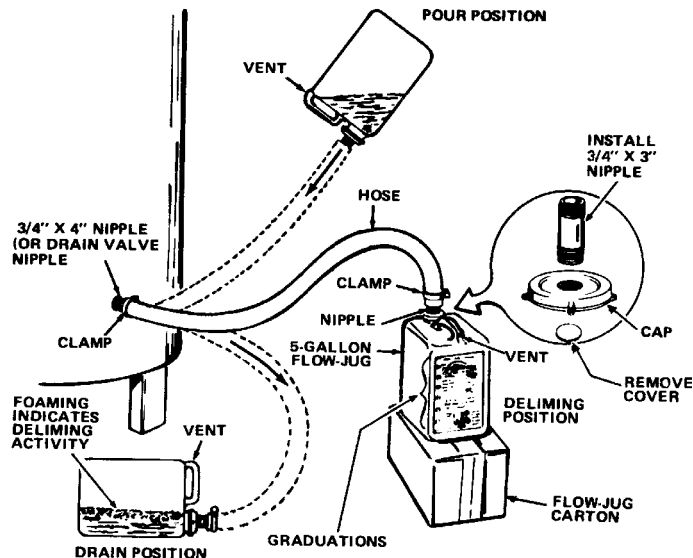

FIGURE 20
6. Lift container to the "Pour" Position, see Figure 20, being careful to keep the vent in the handle above the liquid level and pour the UN•LIME into the heater.
8. Let UN•LIME remain in the heater for 5 minutes and then lower the container to the "Drain" Position, see Figure 20.